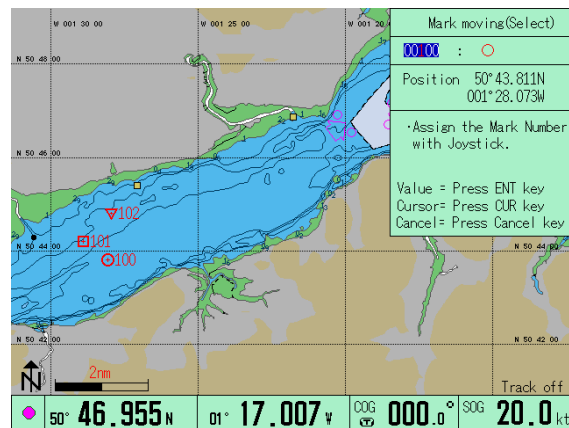
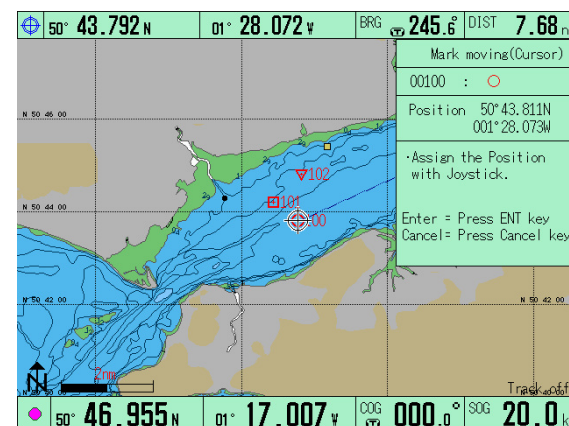

Figure 5.17a Moving the registered mark
Figure 5.17c Moving the registered mark
popup window appears. (Figure 5.17a)
- (1) Press the CUR key to delete the cross cursor.
- (2) Press the ENT key. The "Mark moving (Select)" popup window appears. (Figure 5.17a)
- (3) Operate the Joystick up or down to select the mark number.
- (4) Press the CUR key to move the cross cursor. The "Mark moving (Cursor)" popup window appears. (Figure 5.17c)
- (5) Operate the Joystick and move the cross cursor to the new position.
- (6) Press the ENT key. The new cross position is set as the new mark. The popup window closes.